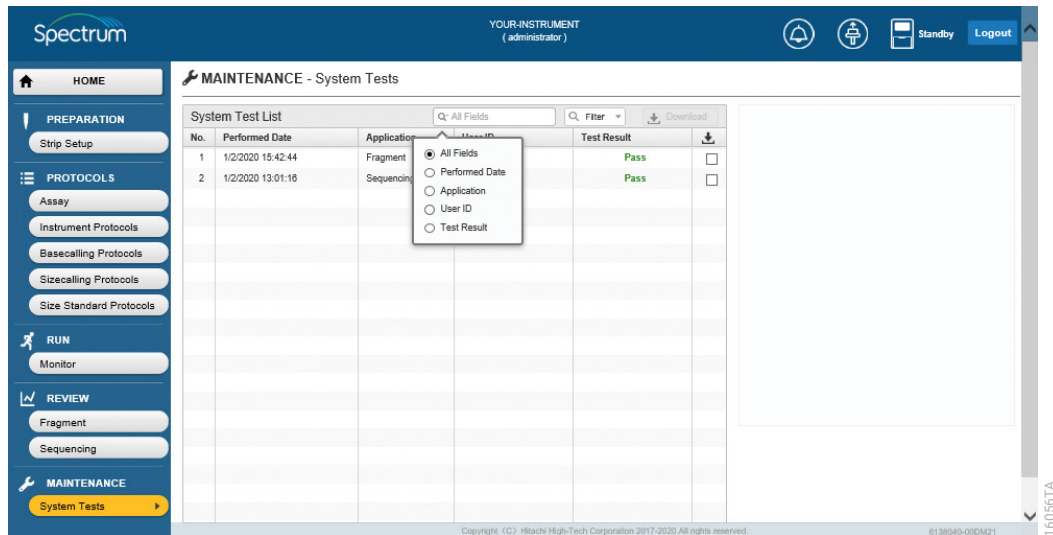

Figure 108. System Test List select search field radio button window.
2. Data in the System Test List may be searched and filtered (i.e., searched for based on specific values and filtered such that only runs that meet those criteria are displayed in the System Test List). Select the magnifying glass icon on the Select Search Field box to display a window with radio button selections that allows you to search by All Fields, Performed Date, Application, User ID or Test Result (Figure 108).